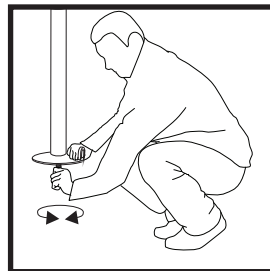

Fig. 11
17. Depending on the type and hardness of the substrate, adjust the length the anchor pin by screwing it in (Fig.11).